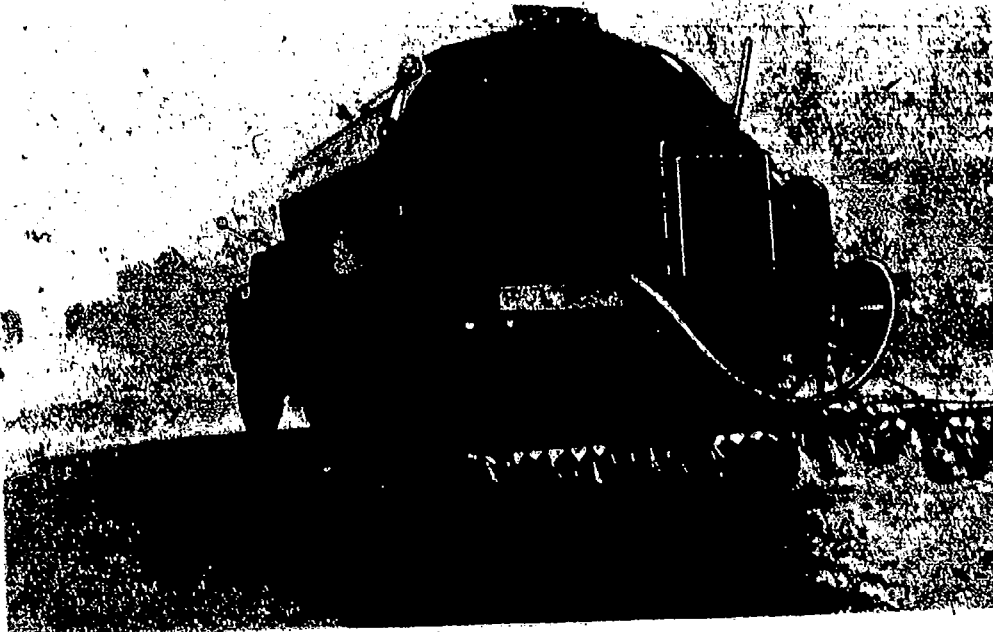

Fig 6-3. Asphalt distributor.
a. Purpose. The asphalt distributor (figs 6-3 and 6-4) is used in the construction of surface treatments, road mix surfaces, and penetration macadam. Its basic function is to apply the bituminous material to the surface accurately and uniformly in the desired amount and width. The application rate of the distributor is controlled by the width of the spraybar, the pump output, and the forward speed of the truck.
- (1) Normal functions. The circulating system (pipe and valve arrangement) is designed to perform several jobs that are necessary to a well-balanced unit. These functions include the following: